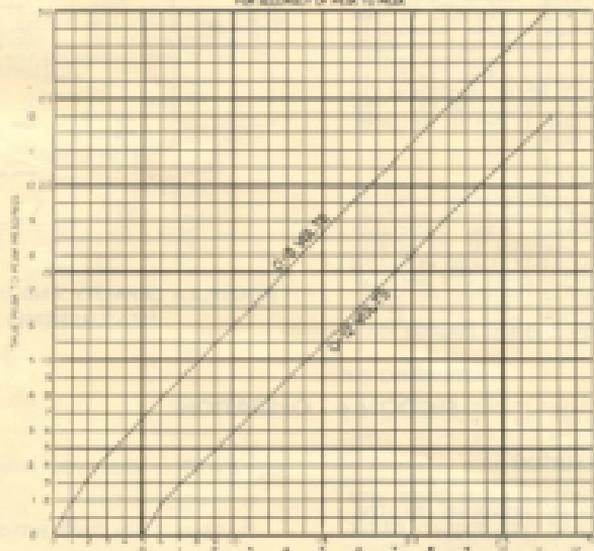

FIGURE 4-1 PEAK-TO-PEAK CHART
(1) Note the numerical value of the capacity directly from the scale. Find the associated impedance on the graph given in Figure 4.1. This value is RL in the formula below.
(2) Note the RANGE SELECTOR, whether it is R or X1 = X10 = X100, etc., value. This value is in the formula below.
(3) Determine the reactance of the inductance by means of an ohmmeter. This value is RL in the same formula.
(4) Knowing RL and whether the selector switch was on R1 = X10 = X100 etc., also knowing RL determine the inductive reactance XL from the formula below.
Therefore, the error due to the resistance is greater than 2%. Referring to the graph in Figure 4.1, we find that the impedance for a capacity reading of 8.8 RFD is 200 ohms. Substituting in the formula: